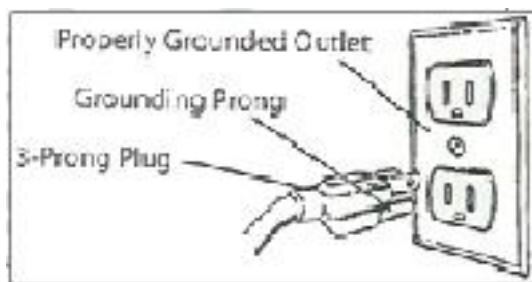

Figure 1 - 3-Prong Receptacle
- This grinder is equipped with an approved 3-conductor cord rated at 115V and a 3-prong, grounding type plug (see figure 1) for your protection against shock hazards.
- Grounding plug should be plugged directly into a properly installed and grounded 3-prong grounding-type receptacle (see figure 1).